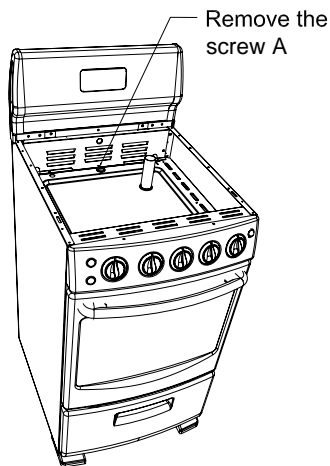

Figure 1
2. Remove the screw A located as is showed on Figure 1